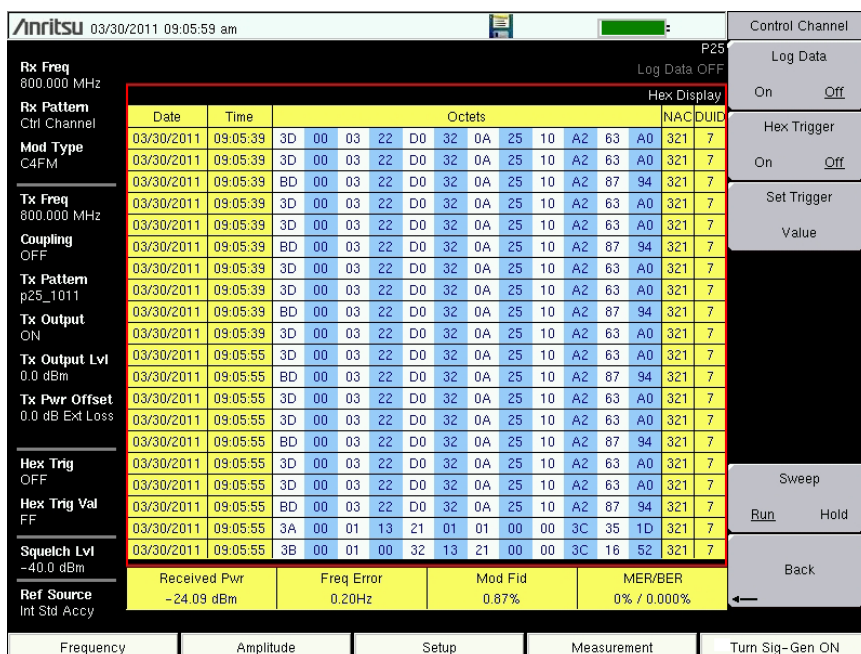

Figure 3-12. Control Channel Measurement
4. Set the Hex Trigger, Sweep and Set Trigger Value (Figure 3-12). The Hex Trigger menu and Hex Trigger Value menu are used to find a specific opcode in the Control Channel data. To set the hex trigger value, press the **Set Trigger Value** menu. An on screen keyboard will display and with the numbers 0 to 9 and the letters A to F. Enter the two character hex value to search for. After entering the value, press **Enter** to set the trigger value. Press **Esc** to cancel entry or changing the current hex value.